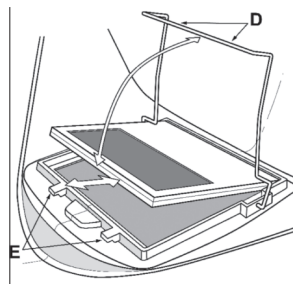

Figure 3
Fitting New Cartridge: Take the new shade cartridge and pass the potentiometer cable under the wire loop before placing the cartridge into its retaining frame inside the helmet. Hinge down the wire loop and ensure the front edge of the loop (D) is properly retained under the retaining lugs (E) as shown in (figure 3).